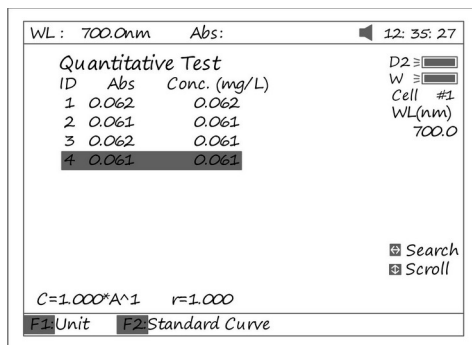

Fig 38
a) Pull the sample cuvette into Main Light Path, press the key [START], the results will be displayed on the screen (Fig 38).